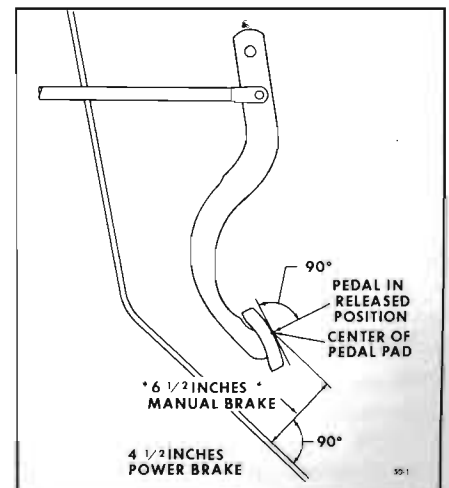

Figure 50-1—Brake Pedal Height
3. When specified pedal height is attained as shown in Figure 50-1, tighten jam nut.